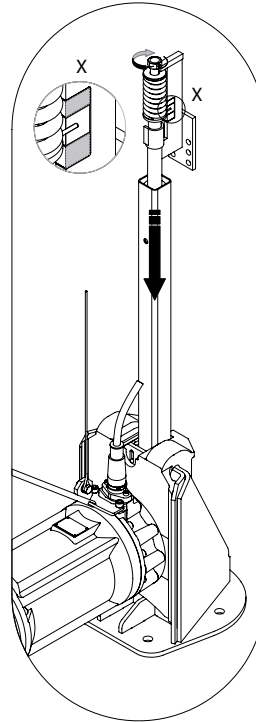

Figure 10 Engagement of the coupling system
- Lower the flow booster and allow it to engage. Turn the screw on the tube holder **in clockwise direction** (guide tube is lowered) until the guide tube wedge at the lower end of the guide tube engages with the bracket of the flow booster. Tighten the screw until the indicator pin is inside the green marking of the spring tension indicator (see Figure 10).